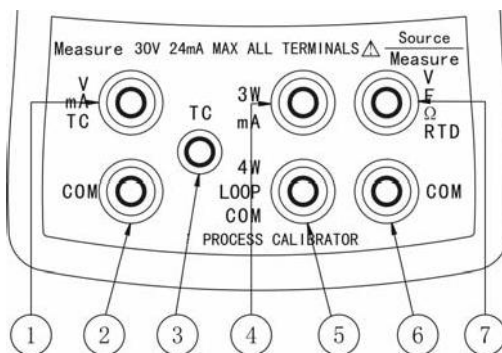

Figure4-1 Source /Measure Jacks
Figure4-1 shows the SUP825J Multi-function process calibrator Source/Measure jacks and Table4-1 explains their use.
Auto flash jacks will guide you to the correct connecting. For example, after you select to measure voltage in lower display, ⑥ and ⑦ in Figure4-1 will flash, and then you can put the test leads into the jacks correctly.